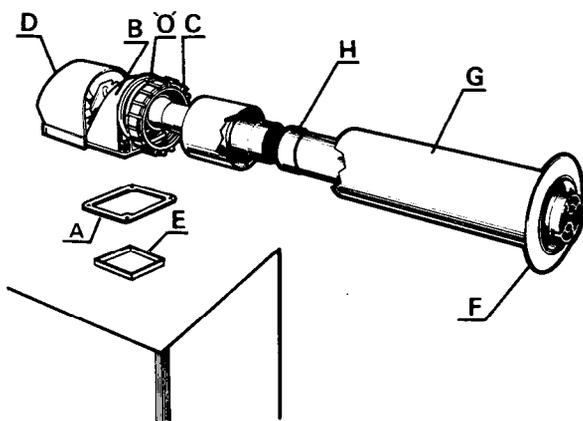
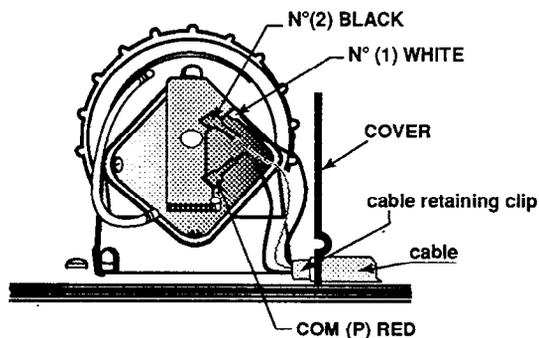

Fig. 25
Fig. 26
- d) Peel off protective paper from adhesive side of cork gasket (A) place on mating side of flue turret (B) lining up with four clearance holes, press together.
- e) Assemble second part of flue duct (H), push fit.
- f) Slide locking ring (C) and 'O' ring over plastic air duct.
- g) Slide air duct over flue duct, engage end of flue duct into terminal and locate air duct into turret (B).
- h) Slide 'O' ring along air duct (C), to contact with the face of the turret (B). Locate lugs on locking ring (C) between lugs on flue turret (B). Push together and turn to lock.
- j) Position square channelled rubber gasket (E) on the flue hood outlet of the boiler, channel facing downwards.
- k) Pass the flue assembly through the wall and seat turret (B), onto the flue outlet, secure with 4 screws provided.
- l) Fit wall plate (F) provided with mastic sealing ring over air duct to structure.
- n) Do not fit plastic turret cover 'D' until electrical connections to the pressure switch have been made (see fig.26).
- b) Push spade terminals onto tags COM (P) No (1) and No (2)
- c) Fit turret cover (D) (fig.25) ensuring that both the air tube and cables are not trapped. Ensure that the cable retaining clip is positioned inside of the cover as shown. (see fig. 26).